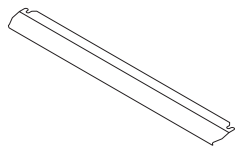

Figure 12
1. A safety panel is designed to protect control panel and the buttons when the oven is in grill mode. (figure 12)